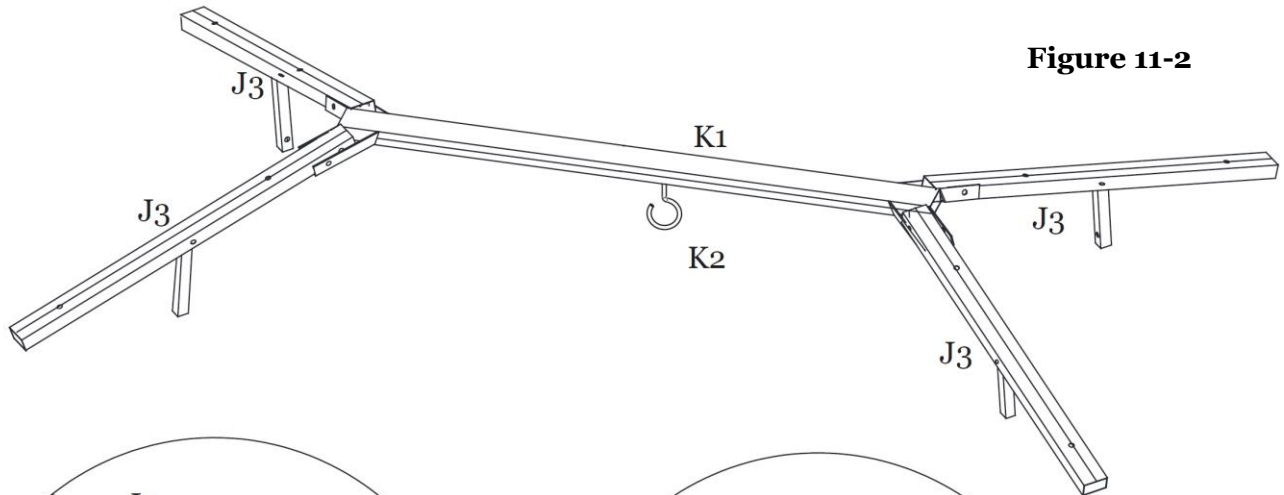

Figure 11-2
Step 11B: Repeat for all corners. **Tighten all Bolts.** See Figure 11-2.
Step 11C: Screw in Roof Vent Hook (K2) to Roof Vent Support Frame (K1). See Figure 11-2 and 11-3.